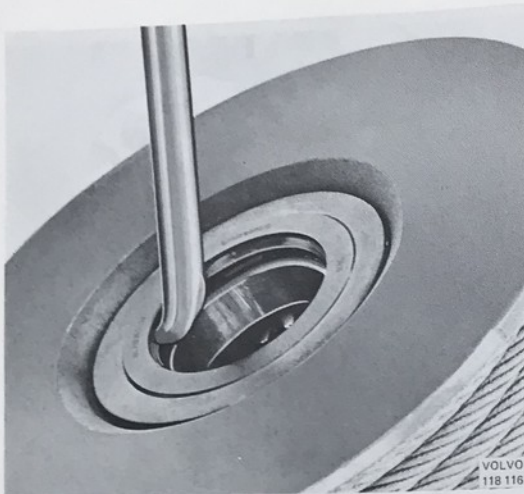

Fig. 92-51. Removing the seal
12. Lever out the seal in the drum with 2337, see Fig. 92-51.